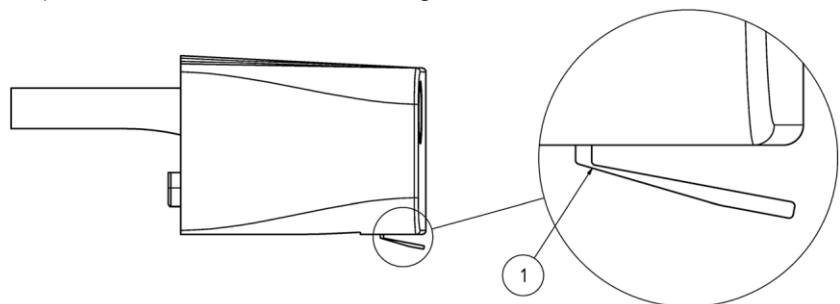

Figure 16: Abnormal wear of lip seal
- ◆ abnormal or one-sided wear is present on the lip seal (Figure 16, Pos 1), due to improper operation or environmental influences or incorrect installation (misalignment) of the steel belt cover or carriage cover.